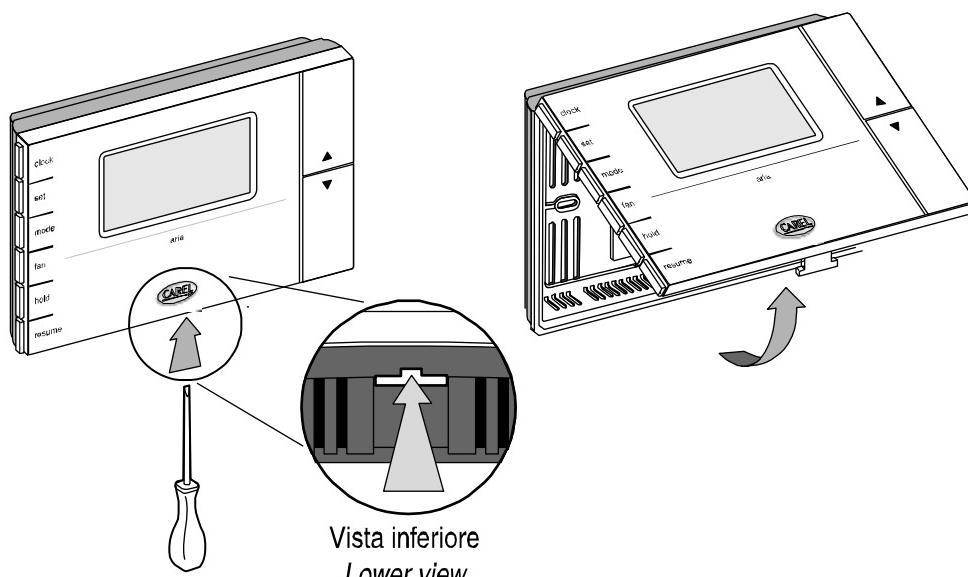

Figure 3.1.1
1. To detach the front panel of the terminal from the rear shell, place a flat-head screwdriver in the slot in the centre of the bottom side of the housing and release the locking flap (Fig. 3.1.1).
2. Raise the front panel using a "hinge" movement, using the upper edge of the instrument as the pivot and raising the lower edge (Fig. 3.1.1);